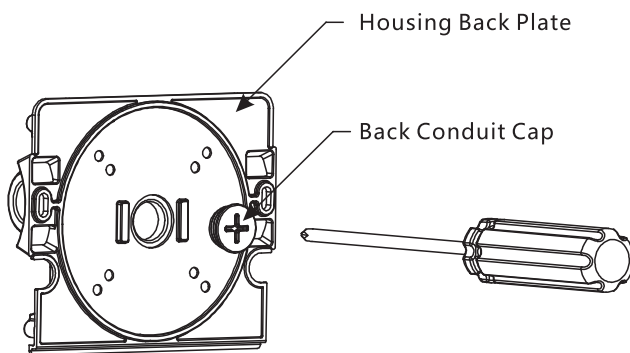

Fig. 3
3. Remove Housing Back Plate and unscrew Back Conduit Cap with a screwdriver as shown in Fig. 3.